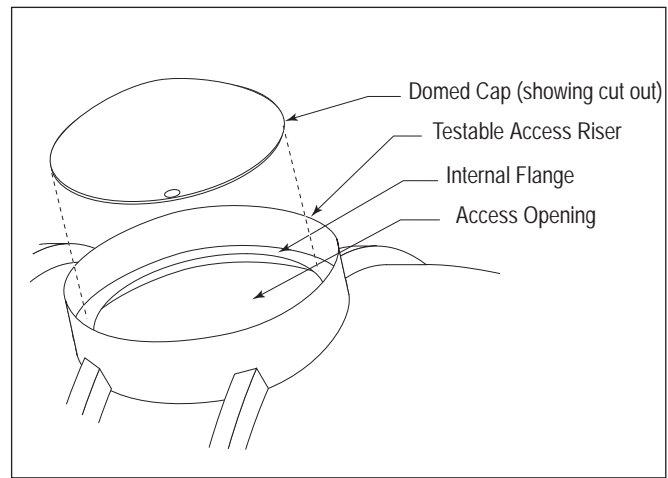

FIGURE 3-1
- 3.3. On the domed cap inside the testable access riser, mark a circle to signify the area that needs to be cut out. See FIGURE 3-1.